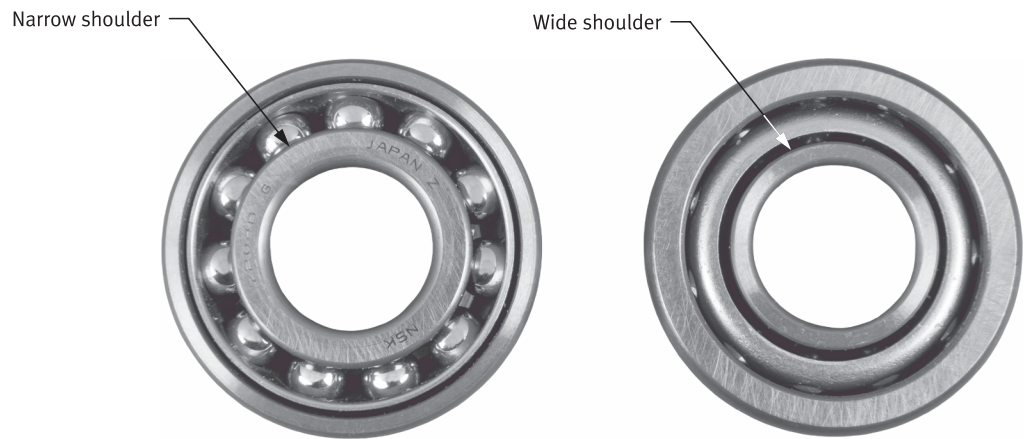

Figure 36: Angular contact ball bearings.
32. Observe the angular contact ball bearings. Notice that both sides of each bearing are not identical. On one side, the inner shoulder of the bearings is wide, while on the other side, it is narrow, as shown in Figure 36. The orientation of each bearing is important, as it can only support axial loads from one side. Therefore, to support axial loads from both sides, the two angular contact ball bearings must be mounted opposite to each other.